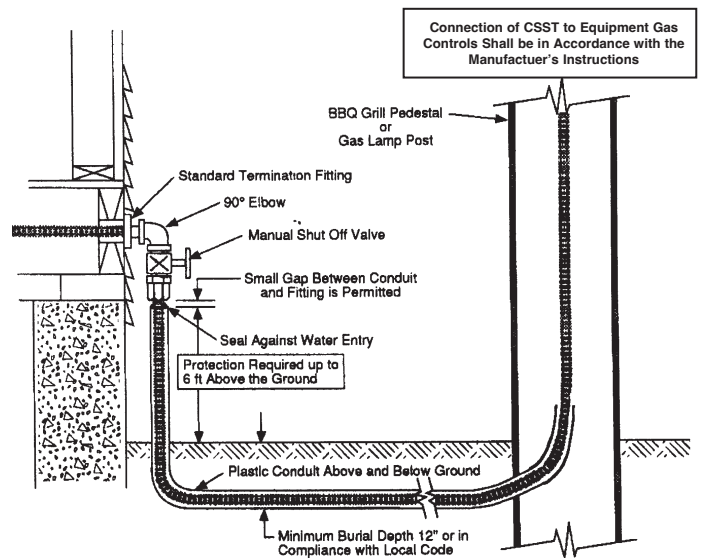
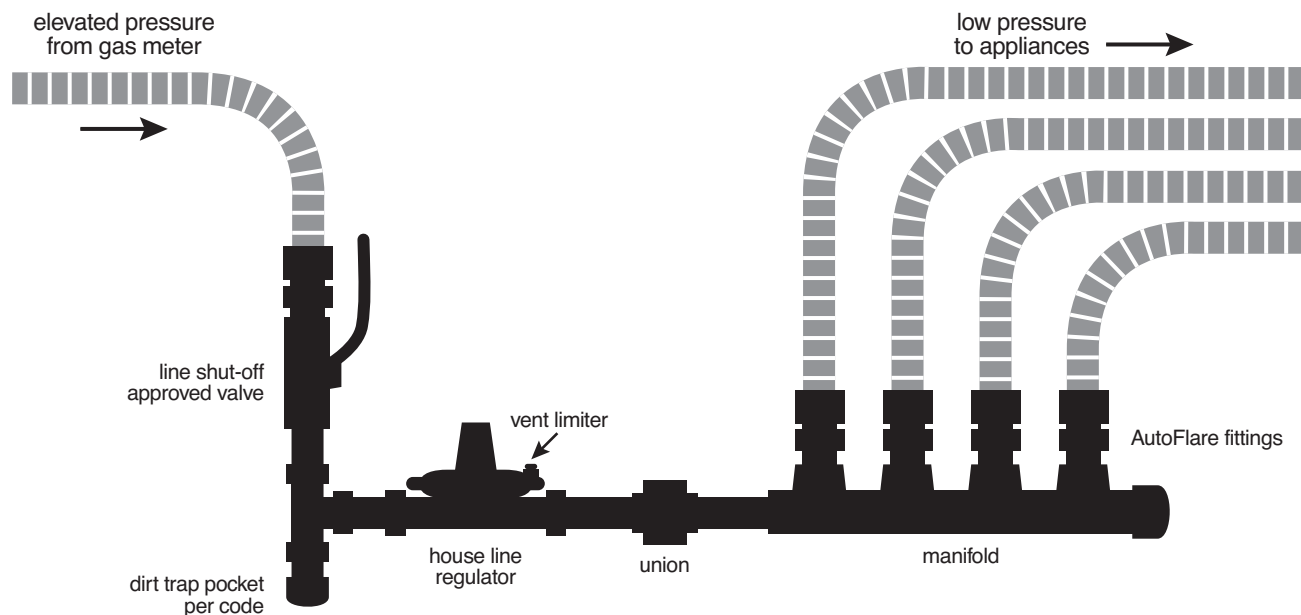

Figure: 4-43
Figure: 4-46
4. Yard mounted lights shall be connected to the **TracPipe** and **TracPipeCounterStrike** CSST system as shown in **Figure 4-43**. All piping installed below grade shall be protected by non-metallic, water-tight conduit or **TracPipe PS-II** for underground use. Exposed ends of the conduit shall be sealed against water entry.
The use of a central manifold and regulator station is recommended for elevated pressure systems which are typically installed in a parallel arrangement to take advantage of the capacity of the regulator (**Figure 4-46**). Manifolds are available with the **TracPipe** and **TracPipeCounterStrike** CSST system, or the use of black iron pipe and tee fabricated manifolds is permitted with this system. The manifold/regulator station should be located nearby the largest gas consuming appliances, typically the furnace, boiler, and the water heater in order to allow short runs to these units.
The manifold station **MUST** be located in an accessible location because of the shut-off valve(s) and regulator it contains. The manifold station may be contained in an enclosure box called a gas load center (**Figure 4-43**). Optional gas shut-off valves may be mounted on the manifold for each appliance run (**Figure 4-46**).